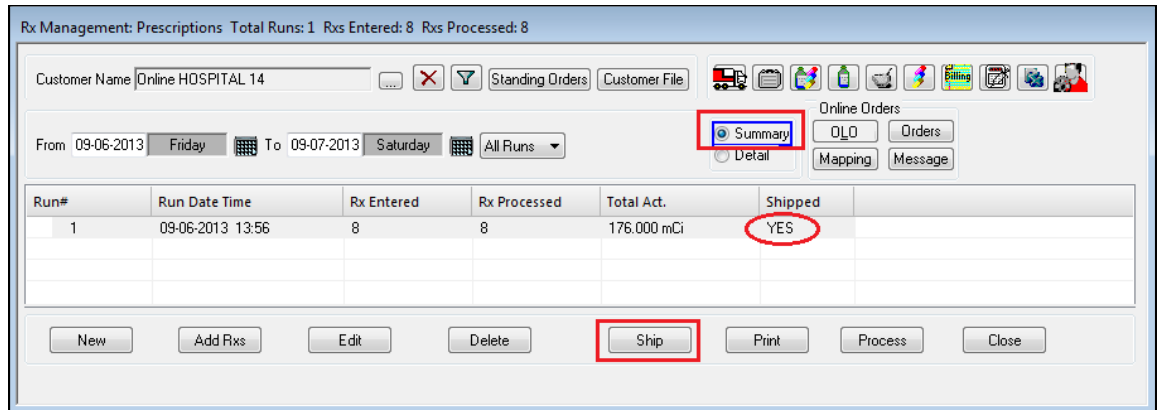

Fig 9
- f. To ship the order, click on Summary, highlight the run and click on Ship at the bottom. See Fig 9